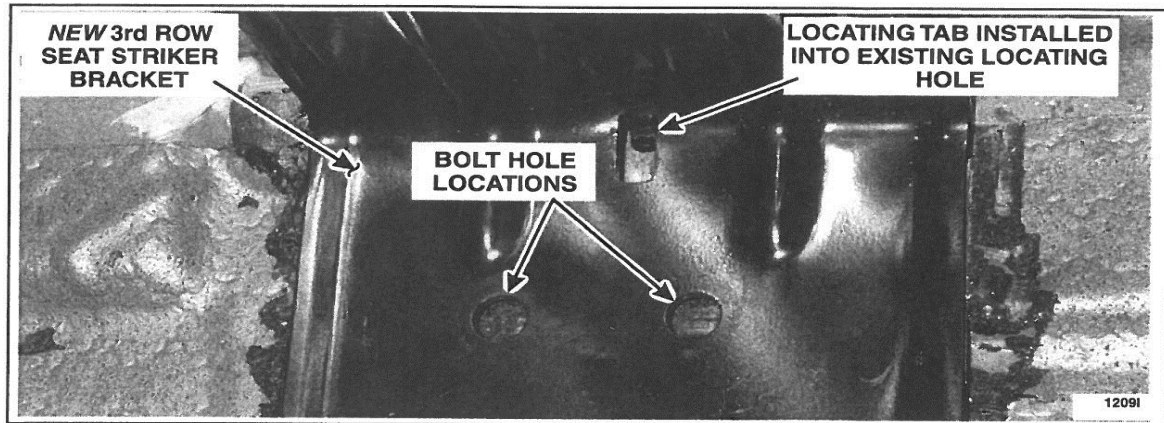

FIGURE 8
17. Position the *new* RH and LH 3rd row seat striker brackets back into the mounting position. Ensure that the locating tab on the striker bracket fits into the existing locating hole in the floor panel. See Figure 8.
NOTE: It is important to position the back of the *new* RH and LH 3rd row seat striker brackets so they fit tight against the existing wheel wells to provide proper clearance for the seat latch hardware. If necessary, bend the locating tab slightly to achieve proper fit/position of the brackets. See Figures 8 and 9.
18. Mark and center-punch the four (two each side) attachment bolt hole locations on the floor. See Figure 8.